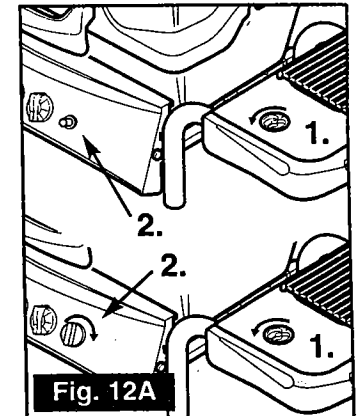

Fig. 12A
3. Depending on which ignitor you have, turn or depress ignitor. Repeat if necessary (see Figure 12A).